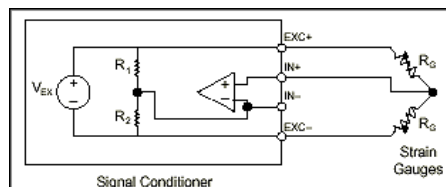

Figure 9a. Connection of Half-Bridge Strain Gage Circuit
**Bridge Completion** – Unless you are using a full-bridge strain gage sensor with four active gages, you need to complete the bridge with reference resistors. Therefore, strain gage signal conditioners typically provide half-bridge completion networks consisting of high-precision reference resistors. Figure 9a shows the wiring of a half-bridge strain gage circuit to a conditioner with completion resistors  $R_1$  and  $R_2$ .